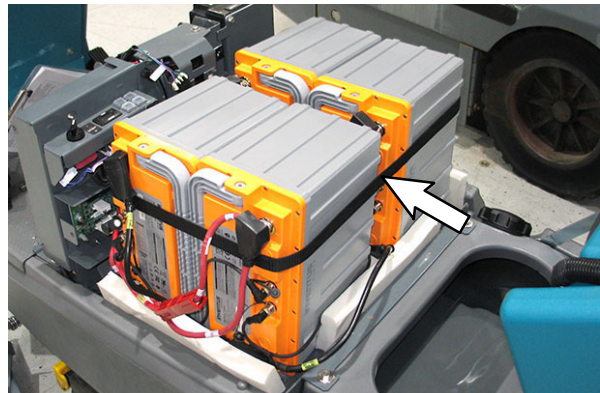

FIG. 8
6. If necessary to allow easier access to the lithium batteries, remove the strap from around the batteries. (Fig. 8)
7. If necessary, remove the foam spacer(s) to allow easier access to the lithium battery being replaced. (Fig. 8)